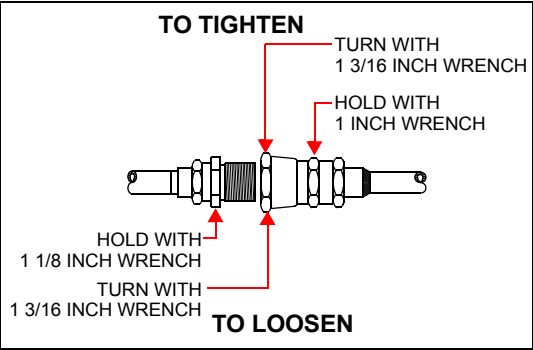

Figure 3: Helium Flex Line Connections
- 2 Connect the Helium return line (see Figure 3).
- 3 Connect the Helium supply line (see Figure 3).